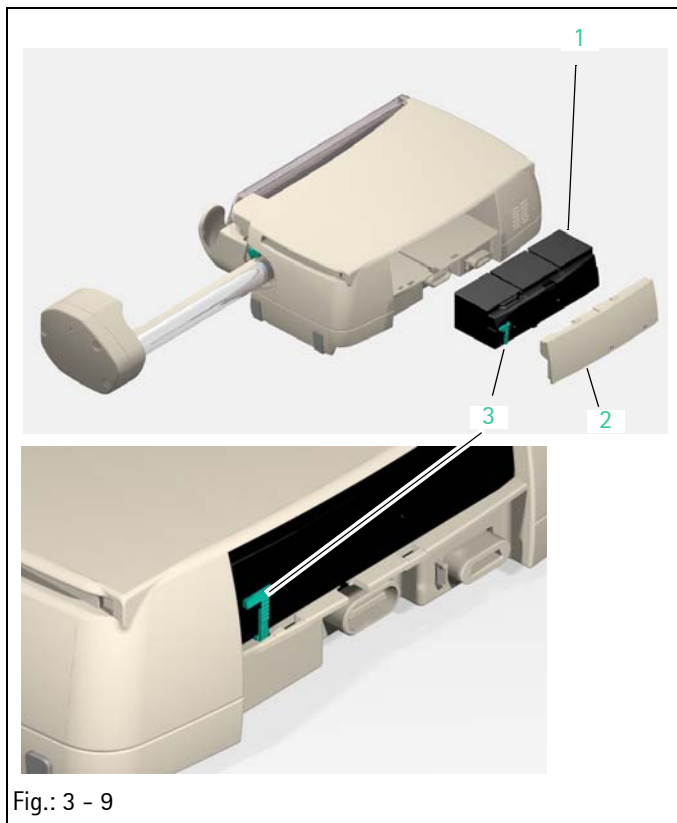

Fig.: 3 - 9
1. Press the lock (Fig.: 3 - 8 / Item 2) on the battery compartment cover (Fig.: 3 - 8 / Item 1) and remove the battery compartment cover.
Legend of fig. 3 - 9: